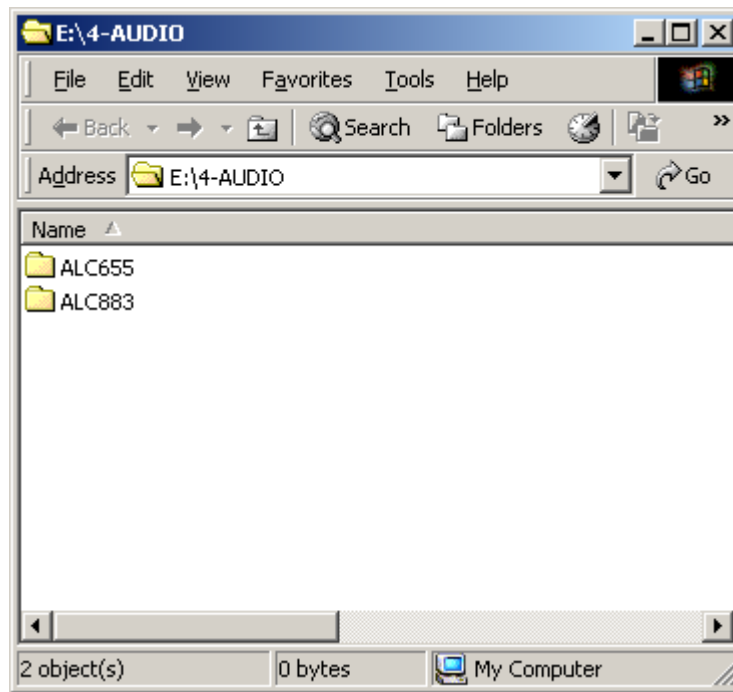

Figure 7-23: Select the Audio CODEC
Step 2: A new window opens (**Figure 7-23**).